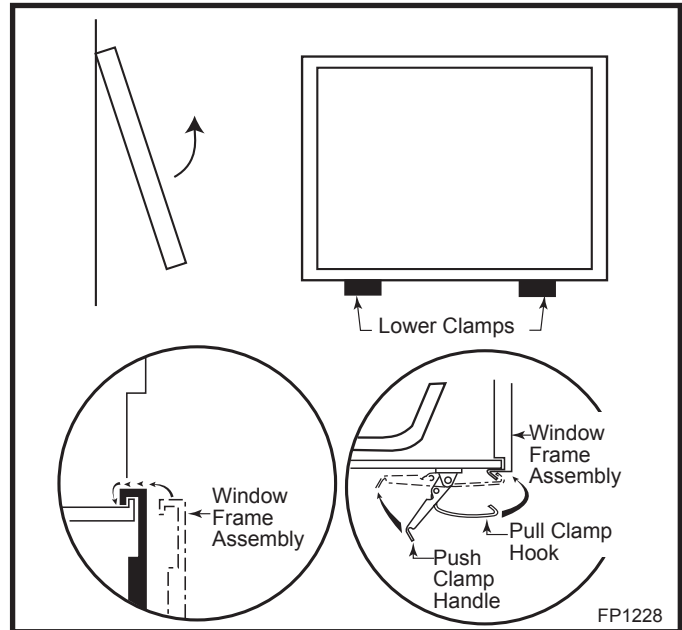

Fig. 62 Window frame assembly removal.
4. Release the two clamps securing the lower edge of the window frame assembly by pulling down on the handles. (Fig. 62)